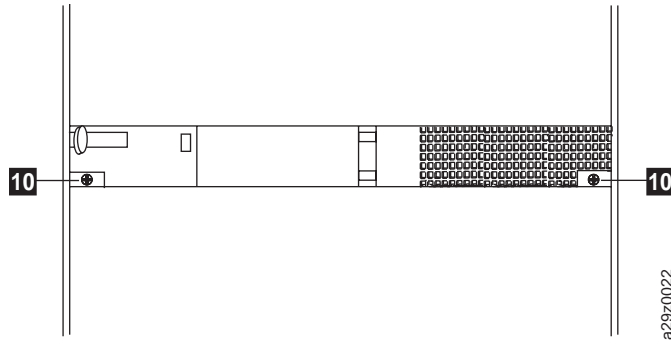

Figure 28. Securing the rear of the library in the rack
- Secure the rear of the library to the rack with a round-head screw **10** on each rear bracket (Figure 28 on page 33). Tighten the other rear bracket screws to secure the library to the rack.